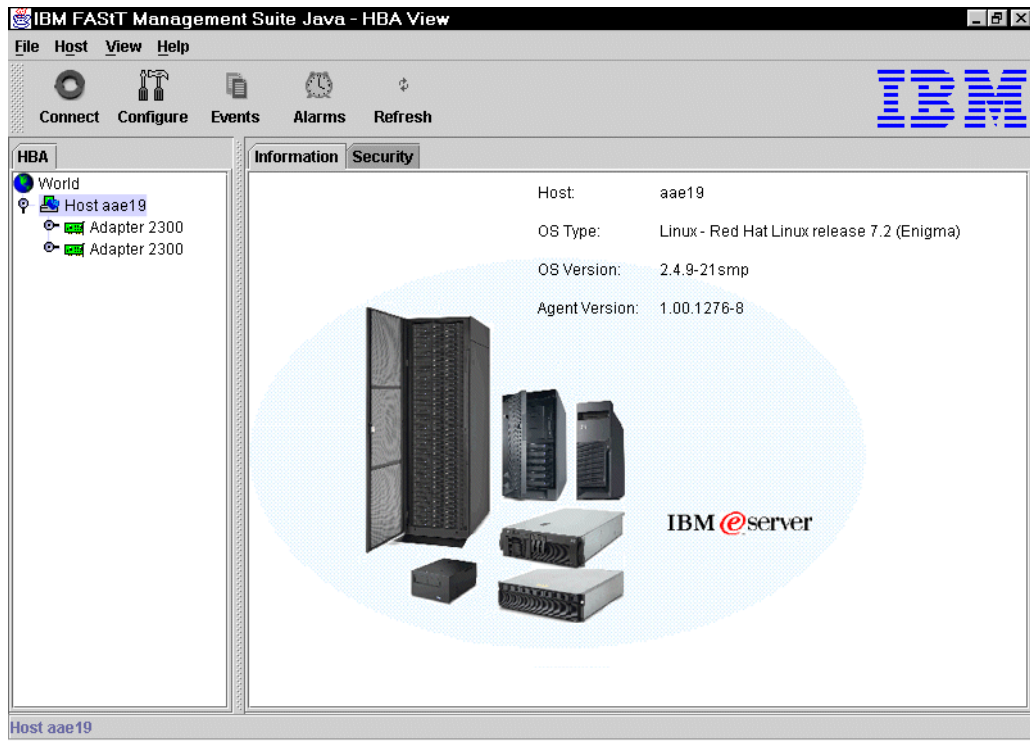

Figure 4-65 FAST MSJ Host view
5. Click **Host aae19** to see the two tabs displayed in the right-hand pane (Figure 4-65). They are: